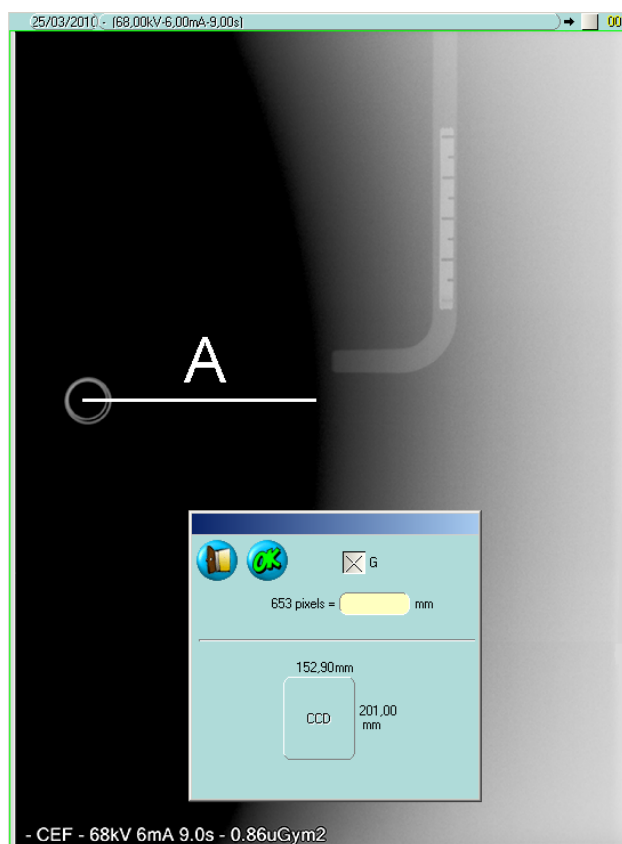

Figure 7-9
7. On the image taken with QuickVision, using the instruction in paragraph 7.1.1, measure the distance "A" (Figure 7-9) between the Soft Tissue Filter (STF) edge and the center of the rings; perform the measure in "mm".